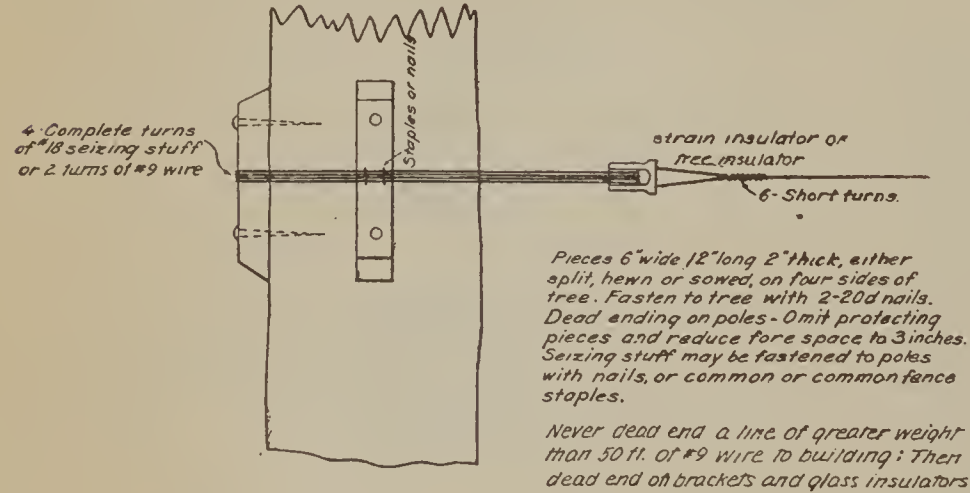

FIG. 19.—Approved method for making solid ties for tree-line construction in connection with use of hangers illustrated in Figures 9 and 10
(1) Solid ties: Where line is run at an abrupt angle up or down a steep slope for distances in excess of a quarter mile.
(2) Dead ends: (a) At railroad, highway, and electric transmission line crossings (see fig. 19); (b) on each side of spans exceeding maximum specified on page 17; (c) at terminals of line; (d) at top of abrupt slopes where the strain might be too great for an ordinary solid tie.